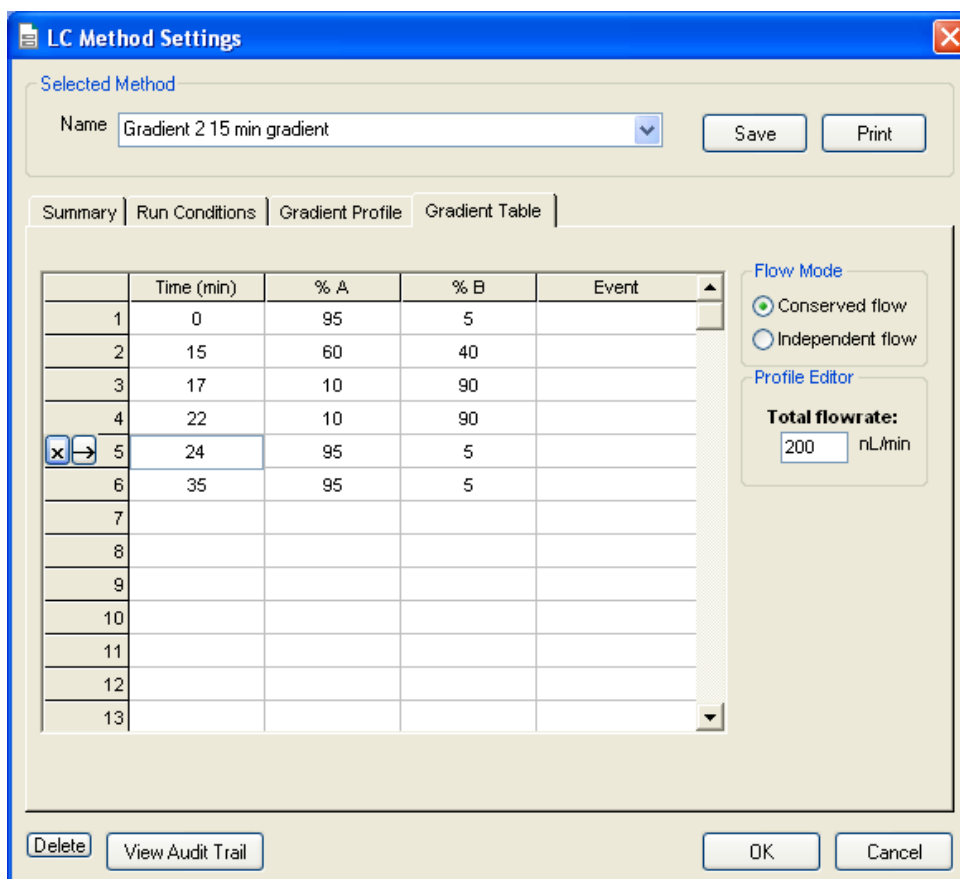

Figure 4-14 LC Method Settings Dialog—Gradient Table Tab
8. Click the **Gradient Table** tab to set the gradient parameters (Figure 4-14).